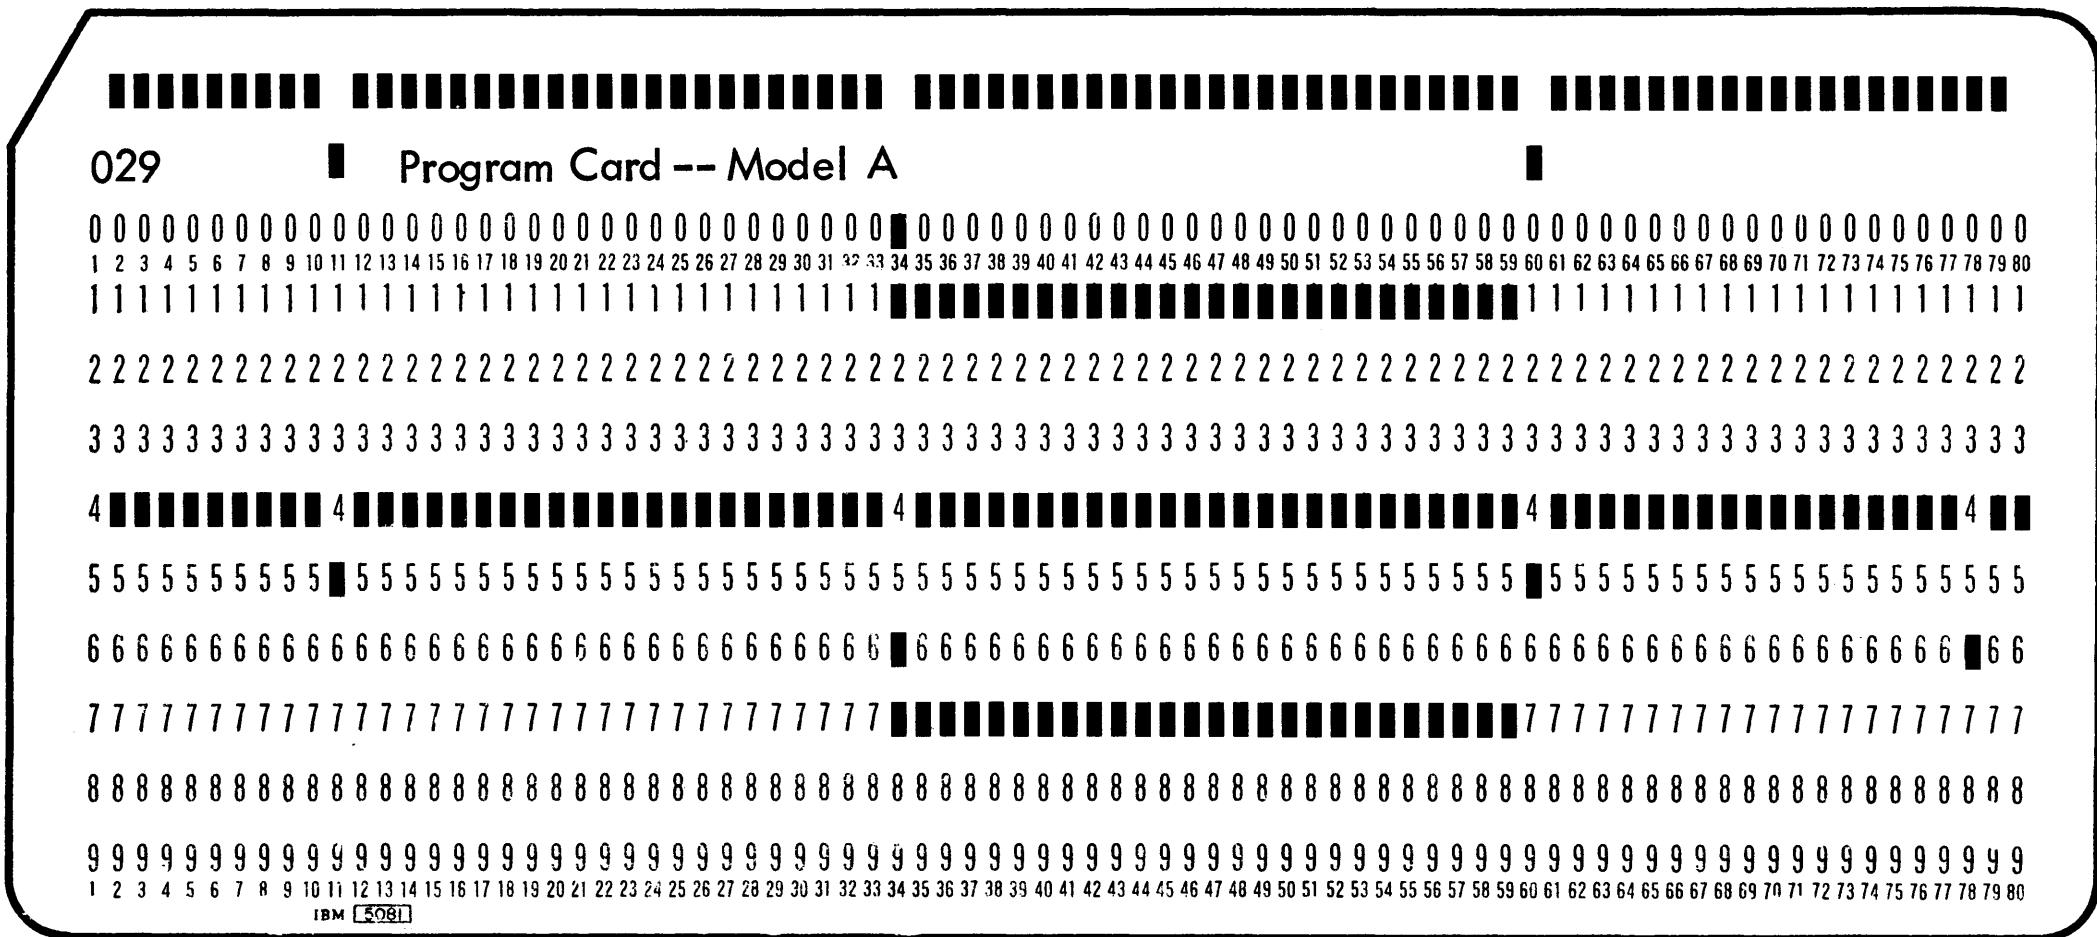

Figure 2-1. Program Card—Model A
2. Install Model A program card (Figure 2-1) on drum, install drum in machine, and lower the starwheels.